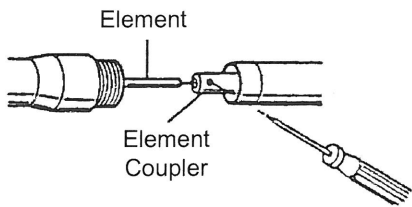

Figure 2
- (1) Remove antenna sections from package and note how sections are tapered to fit together at the Section Joint Assembly.
- (2) Upper & Lower Section Joint Assembly. Lay the Upper and Lower Sections in a line end to end. Connect the antenna elements at the Element Joint as seen in Figure 2. Tighten the two set screws. (It may be necessary to slide the brass antenna element slightly out of the upper section in order to fit into the Element Joint Coupler.)
- (3) Carefully insert upper fiberglass section into lower fiberglass section. The black line should be touching lower section. Slide gasket holder down to meet lower section joint. Verify proper seating of gasket. Thread upper joint nut onto lower joint. Verify proper seating of gasket. Thread upper joint nut onto lower joint. Do not overtighten.